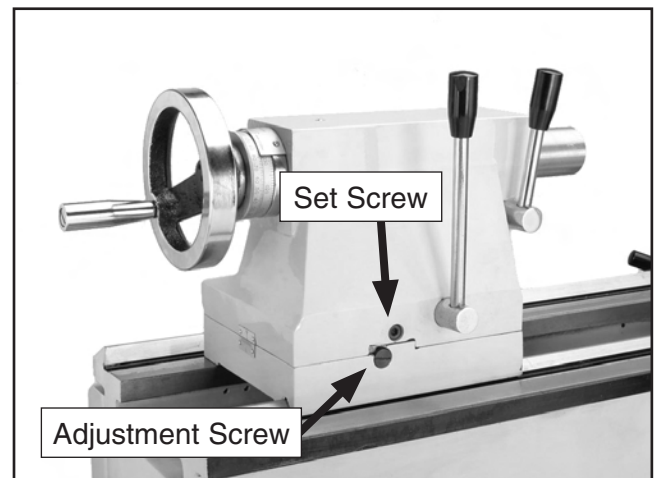

Figure 33. Tailstock off-set adjustments.
2. Loosen the set screw located just above the adjustment screw (see **Figure 33**).